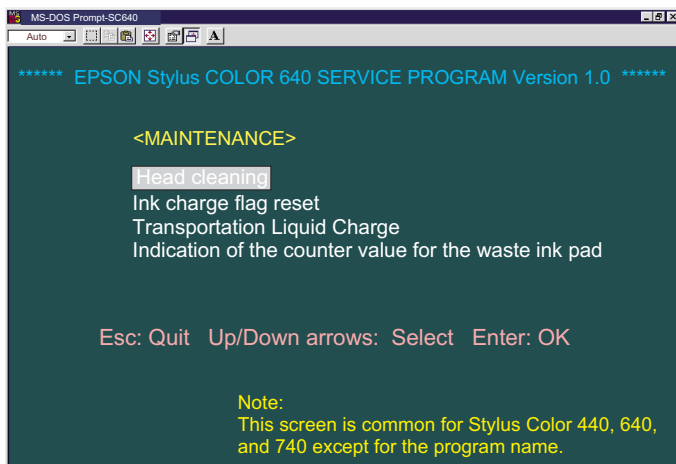
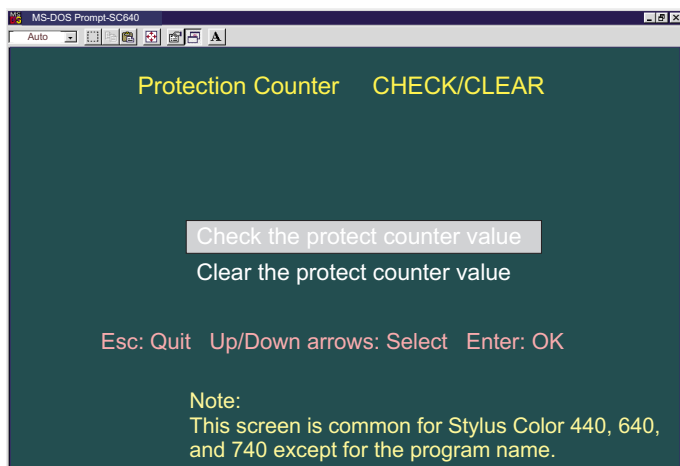

Figure 5-12. Maintenance Menu of the Program
Figure 5-15. Current Protection Counter Conformation (1) Screen
3. By using the Up/Down arrow key, select **Ink Charge Flag Reset** in the maintenance menu (Figure 5-12), and the Initial Ink Charge Menu below appears.
2. Apply the Maintenance menu (Figure 5-12).
2. Apply the maintenance menu (Figure 5-12).
3. By using the Up/Down arrow key, select the item **Indication of the counter value for the waste ink pad** in the maintenance menu (Figure 5-12). The Current Protection Counter Conformation (1) Screen shown in Figure 5-15 appears.